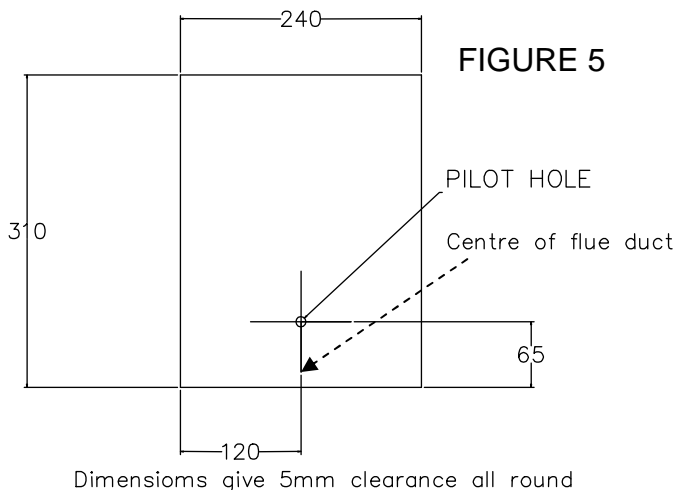

FIGURE 5
1. Cut a rectangular hole in the external leaf of the brick wall to the dimensions shown in Figure 5. Use the pilot hole drilled earlier (Para. 3.2) as the centre position of the flue duct.